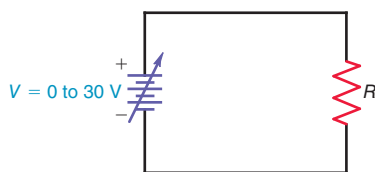

Figure 4-11 Circuit diagram for Prob. 4.18.
- 4.18** Refer to Fig. 4-11. Draw a graph of the I and V values if (a) $R = 2.5\text{ }\Omega$; (b) $R = 5\text{ }\Omega$; (c) $R = 10\text{ }\Omega$. In each case, the voltage source is to be varied in 5-V steps from 0 to 30 V .